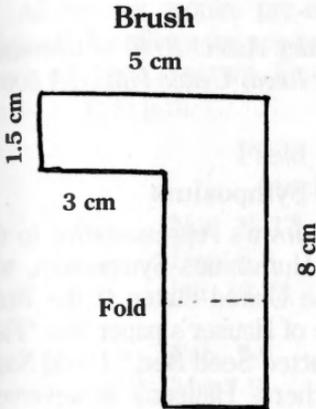

Figure 3
- 7) Cut the two brushes from the evaporated milk can following the pattern in Figure 3. Be careful of the sharp edges!